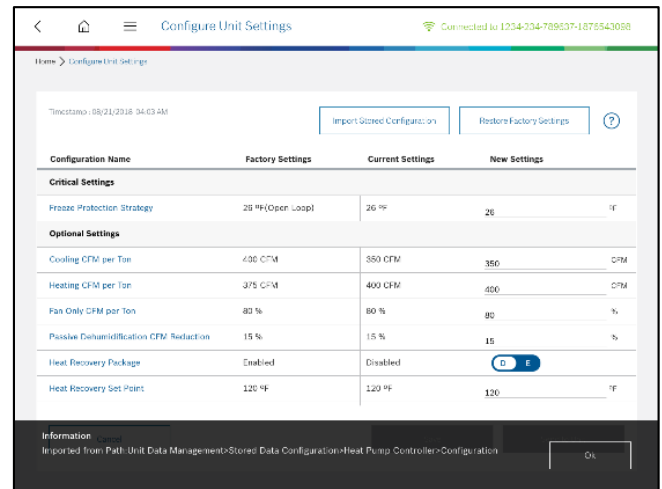

Figure 37: Imported Configuration
- The imported values are updated in the “New Settings” column in “Configure Unit settings” view with information strip. See figure 37.